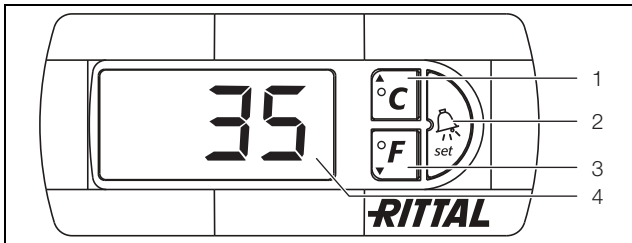

Fig. 16: Display and system analysis of the e-Comfort controller
The e-Comfort controller has a 7-segment display (fig. 16, item 4). After switching on the power supply, the current software version initially appears on this display for approx. 2 seconds. In regular operation, the display shows both the temperature (in degrees Celsius or Fahrenheit – users may switch between the two) and any error messages.
The unit is programmed using buttons 1 – 3 (fig. 16). The relevant parameters also appear in the display.
- Simultaneously press buttons 1 (°C) and 2 ("Set") (fig. 16) for at least 5 seconds.
Using buttons 1, 2 and 3 (fig. 16) you can change 24 parameters within the preset ranges (setpoint, min. value, max. value).